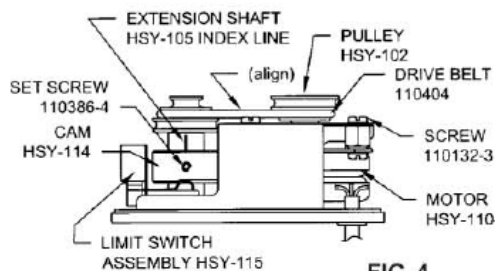

FIG. 4
8. RHSY Series pumps are powered by belt-coupled synchronous motors (refer to figs. 4 & 7c). To service this type of pump, **un-plug power cord**, loosen THUMB SCREW 110437 on rear of CASE ASSEMBLY HSY-109 from COVER ASSEMBLY HSY-113. It will then be noted that a machine SCREW 110230-6 and a STAND-OFF 110439 serve to lock the RH pump head assembly and the SY motor assembly to the COVER ASSEMBLY HSY-113. Removal of the machine screw and stand-off permits removal of pump head and/or motor bracket assembly. Loosening the two machine SCREWS 110132-3 holding the MOTOR ASSEMBLY HSY-110 permits adjustment of the drive belt tension (relocates motor position).
Pulley grooves on motor and pump must be in alignment as shown in fig. 4. SET SCREWS 110288-2 in parts HSY-102 and HSY-105 may be loosened as necessary to achieve such alignment. **Tighten screws** after any service adjustment and **replace CASE ASSEMBLY HSY-109** before plugging electric cord into outlet.
rate is controlled by the groove position in which the belt has been placed. Thus in fig. 4, with belt in central position as shown, the pump operates at 300 strokes per minute; with belt on the small-motor-pulley and large-pump-pulley, (fig. 4) it operates at 150 strokes per minute and with the belt on the large-motor-pulley/small-pump-pulley the pump operates at 600 strokes per minute.